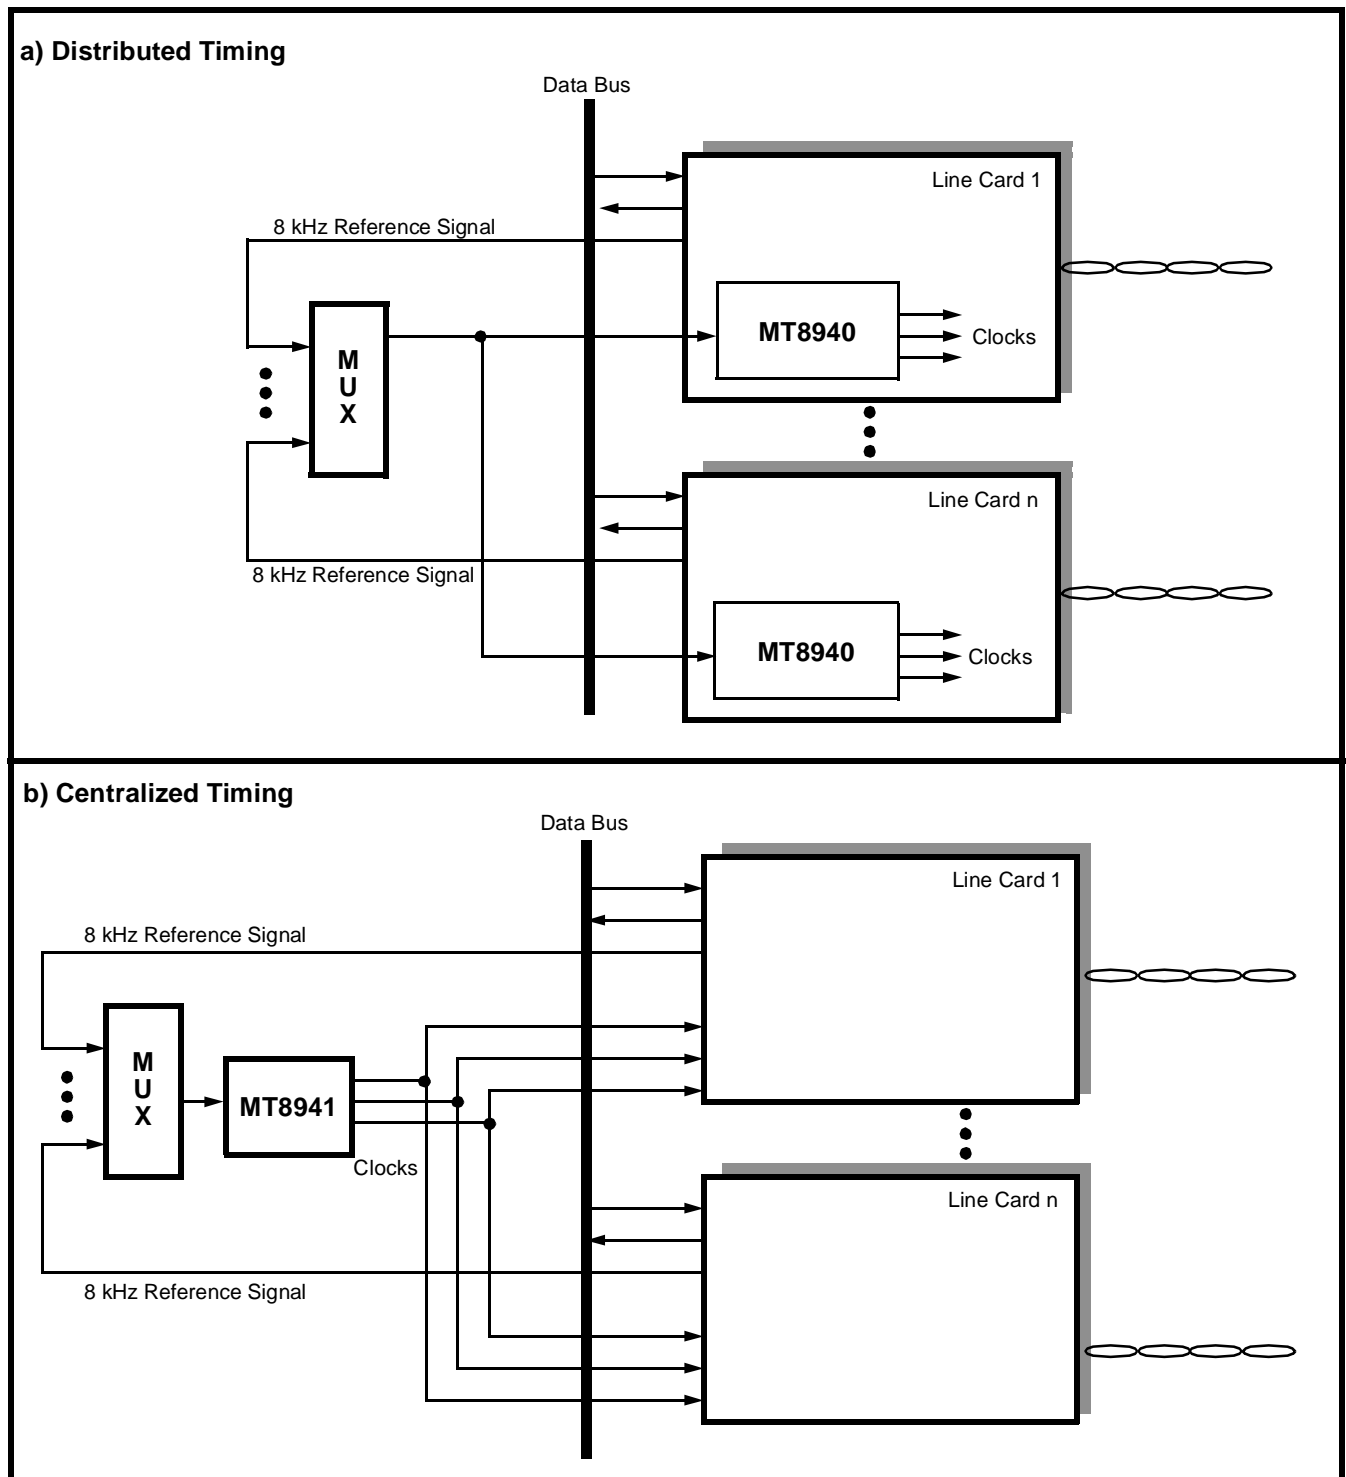

Figure 8 - Application Differences between the MT8940 and MT8941
2. The MT8941 includes a no-correction window to filter out low frequency jitter and wander as illustrated in Figure 4. Consequently, there is no constant phase relationship between reference signal $\overline{F0i}$ of DPLL #1 or C8Kb of DPLL #2 and the output clocks of DPLL #1 or DPLL #2. Figure 4 shows the new phase relationship between C8Kb and the DPLL #2 output clocks. Figure 8 illustrates an application where the MT8941 cannot replace the MT8940 and suggests an alternative solution.